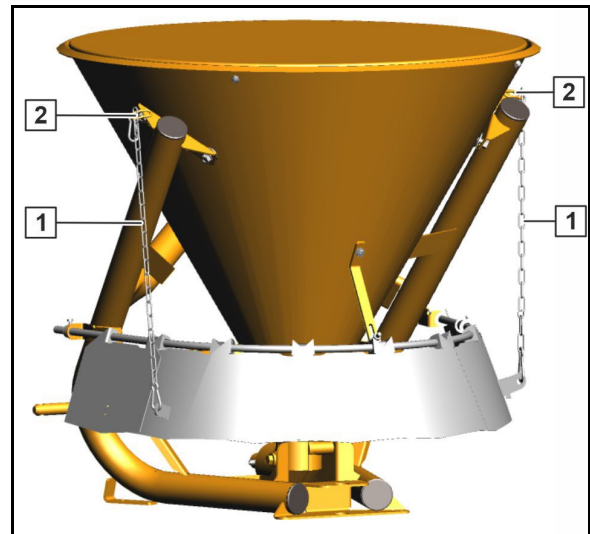

Fig. 23
1. Release the setting lever (Fig. 23/1).
2. Set the shutter stop (Fig. 23/2) in such a way that the reading edge (Fig. 23/3) is in alignment with the desired value on the scale.